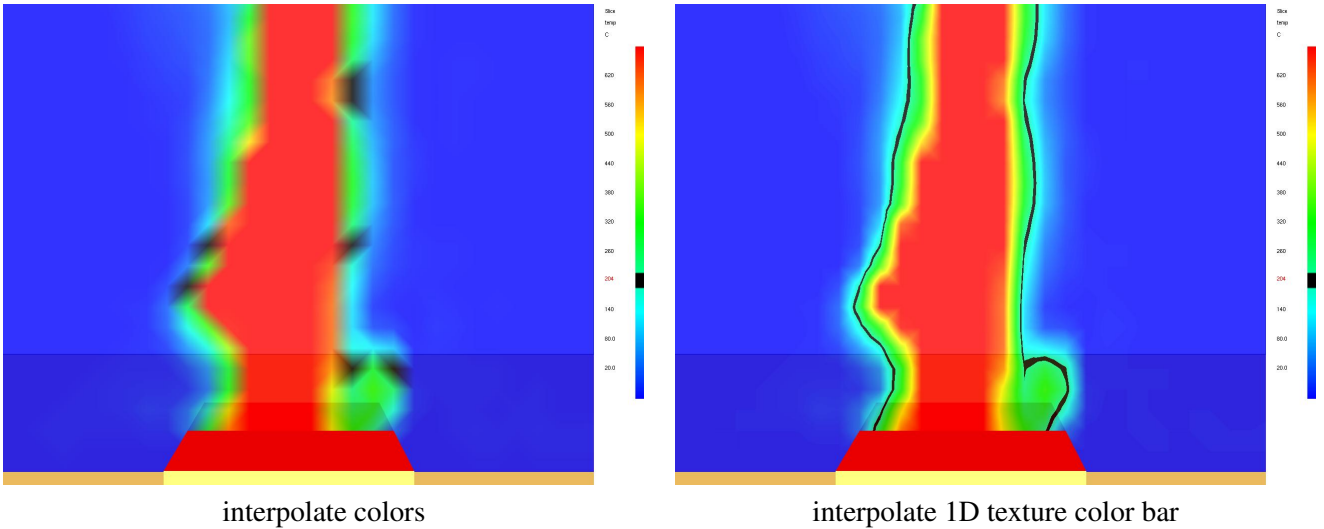

Figure 8.4: Slice file snapshots illustrating old and new method for coloring data.
**New data coloring** Smokeview uses a new more precise method for coloring data occurring in slice, boundary and PLOT3D files. This is illustrated in Figure 8.4. The colors are now crisper and sharper, more accurately representing the underlying data. This is most noticeable when selecting the colorbar with the mouse. As before this causes a portion of the colorbar to turn black and the corresponding region in the scene to also turn black. Now the black color is accurate to the pixel so this feature could be used to highlight regions of interest. The improved accuracy is a result of the way color interpolations are performed. The new method uses a 1D texture map (the colorbar) to color data. Colors are interpolated within the colorbar. Color interpolations with the former method occurred within the color cube.